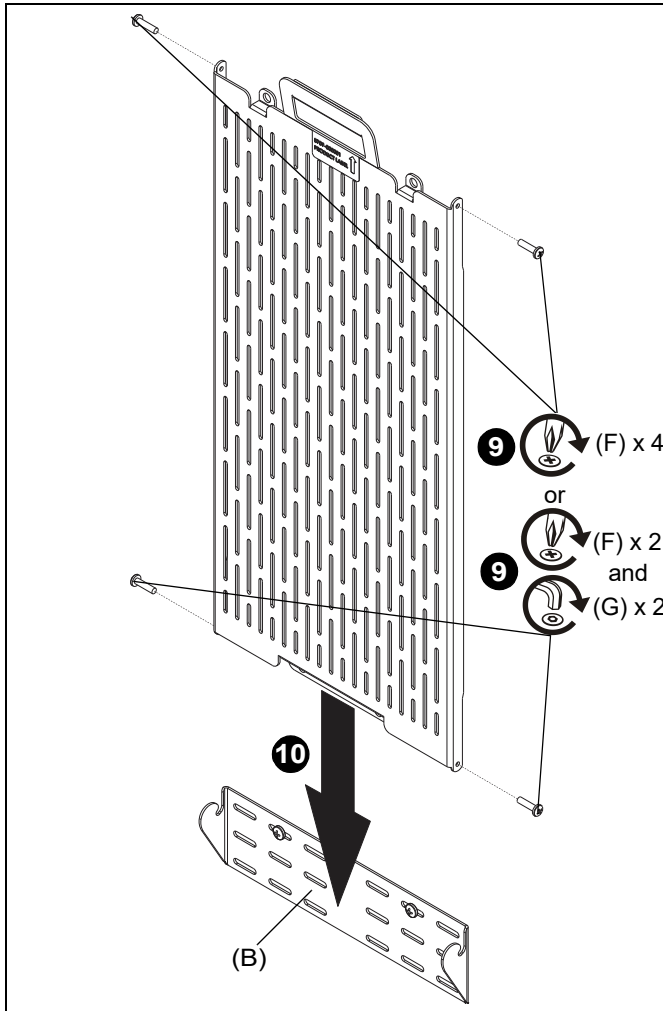

Figure 11
- Loosely install four #10-24 x 3/4" Phillips pan machine screws (F) into top and bottom holes on accessory wall plate (A). Two #10-24 x 1/2" button head security screws (G) may be used in place of two Phillips screws (F) on the top or bottom if greater security is desired. (See Figure 11)
- Slide accessory wall plate (A) onto top wall bracket (B) until top two screws (F) or (G) hang in upper slots of wall bracket (B). (See Figure 11)